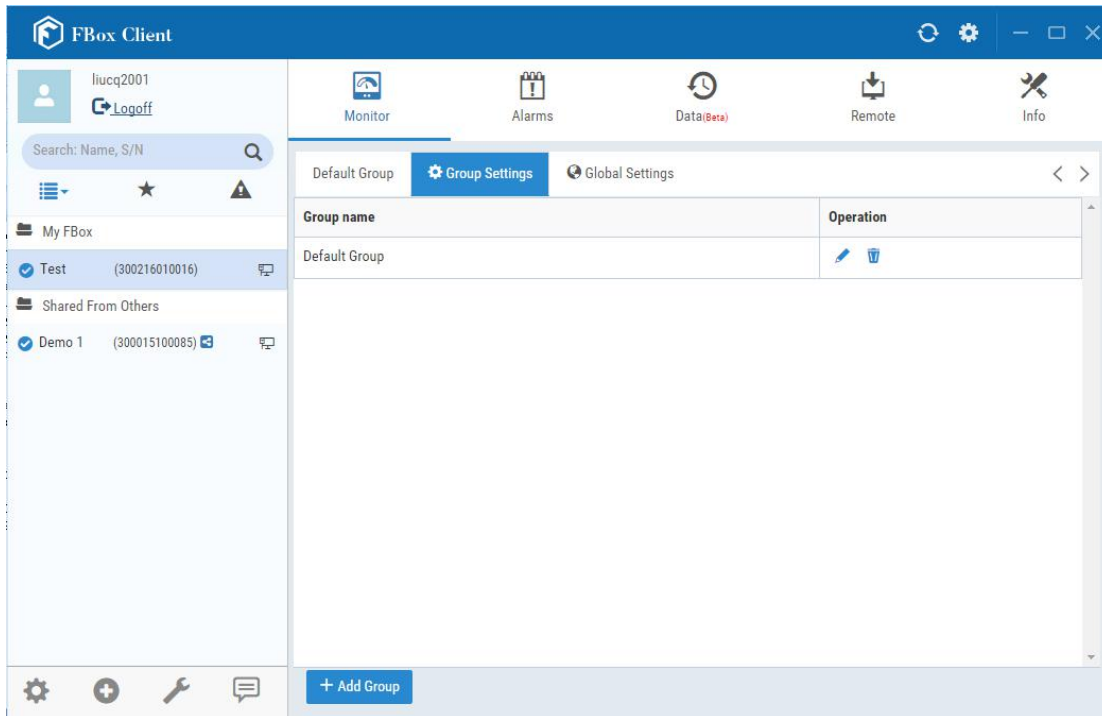

Fig. 4.6-2 The "Group Settings" subtab page
(1) Click the "Group Settings" subtab page in the "Monitor" function page, as shown in Fig. 4.6-2. You can view, edit and delete the current group, as well as add a new group.